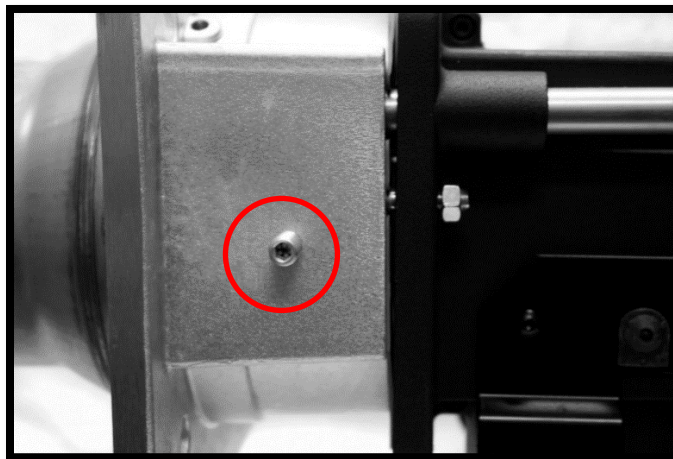

Figure 14
7. Loosen screw on the left side of the burner head assembly, see Figure 14.